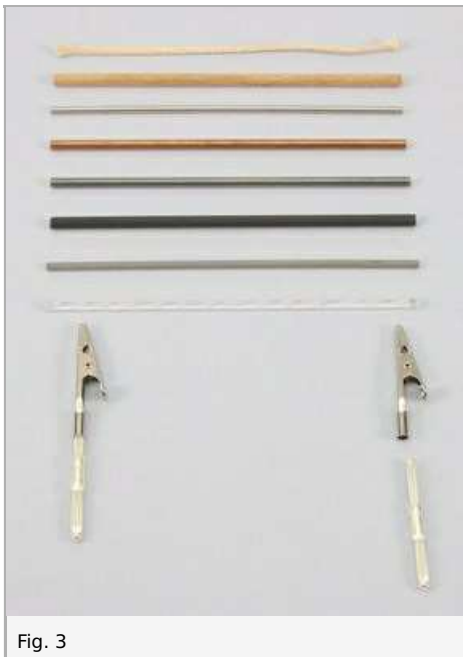
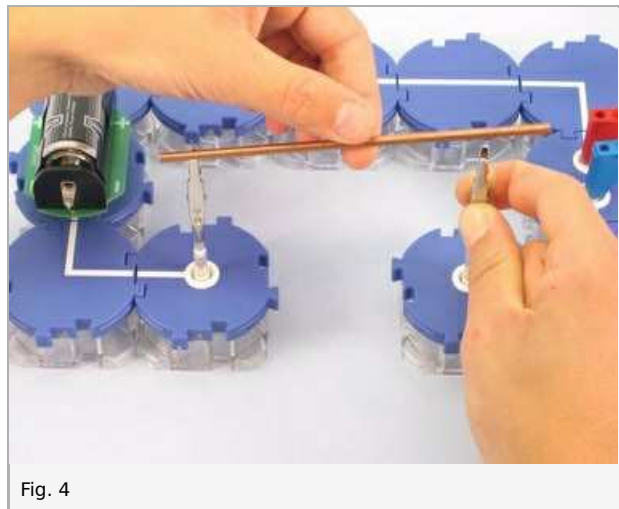

Fig. 3
Fig. 4
- You should have a set of materials as seen in Fig. 3. Successively clamp each of the rods from the set between the two crocodile clips (Fig. 4).